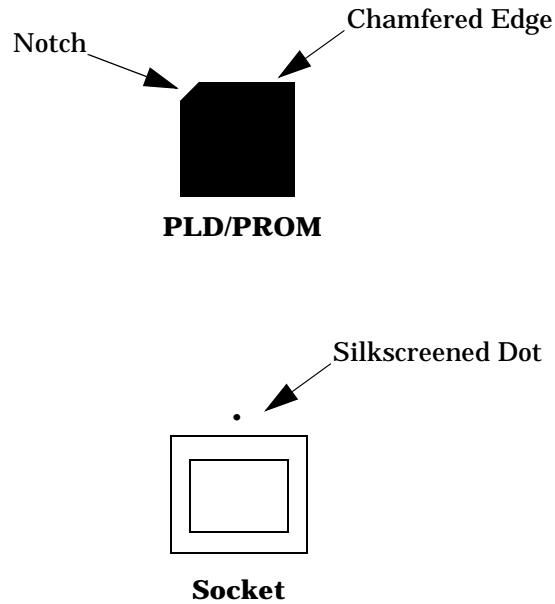

Figure A.5: PLD Alignment
2. Align the notch or chamfered edge on the PROM or PLD to the silkscreened dot on the circuit card (see Figure A.5).